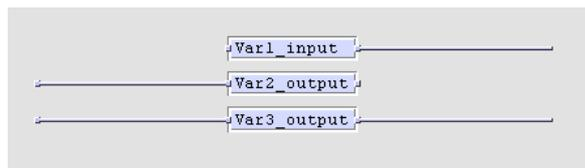

Figure 48: Direction of global variables
- The direction of the variable is determined based on the graphical representation, shown in Figure 48.